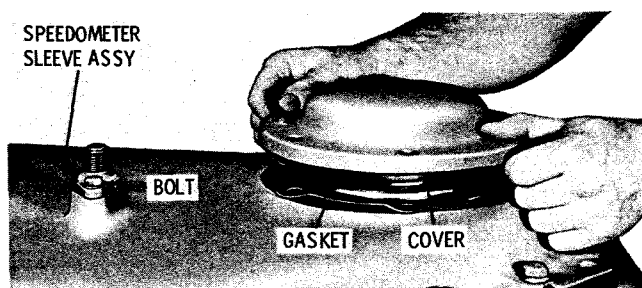

Fig. 7-123. Installing transfer driven gear rear bearing cover
(13) On models which have a speedometer drive in the housing cover, install the gasket and speedometer drive sleeve and retain it with two 5/16-18 x 7/8-inch bolts and lockwashers (fig. 7-123). Tighten the bolts to 13 to 16 pound feet torque. On models which have no rear output or brake, install the gasket and rear bearing cover. Retain the cover with six 1/2-13 x 1-3/8 (vertical housing) or 1-3/4-inch (horizontal housing) bolts. Tighten the bolts to 67 to 80 pound feet torque.